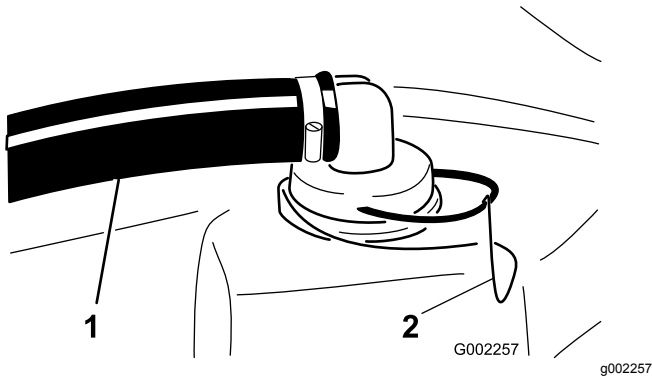

Figure 68
2. Remove the retainer from the red fitting attached to the large hose on the top of the tank (Figure 68).
3. Disconnect the hose from the tank (Figure 68).